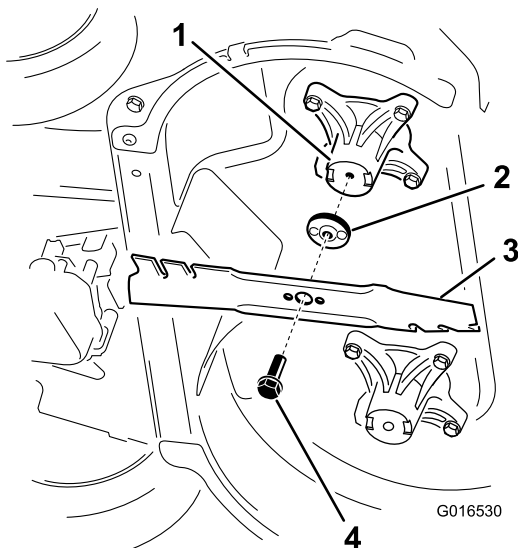

Figure 30
2. Remove each blade as shown in Figure 30.
1. Install the first blade so that it is horizontal, along with all mounting hardware as shown in Figure 30.